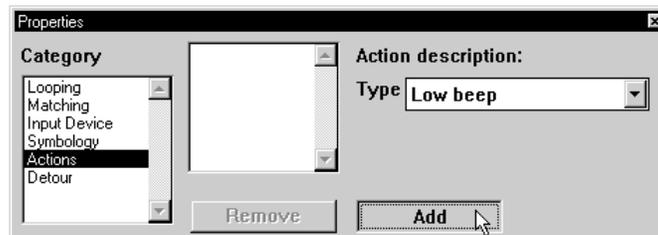
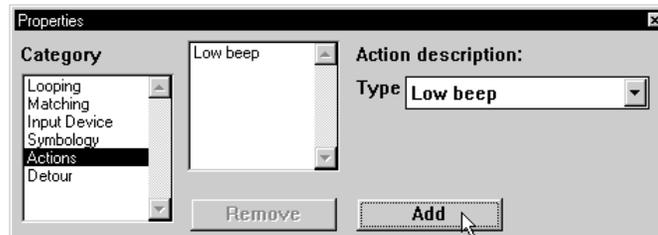

Figure 4-52 Click Add to Add Action to Action List
Figure 4-53 Action Added to Action List
26. Click **Add** (Figure 4-52) to add the **Low beep** action to the action list (Figure 4-53).